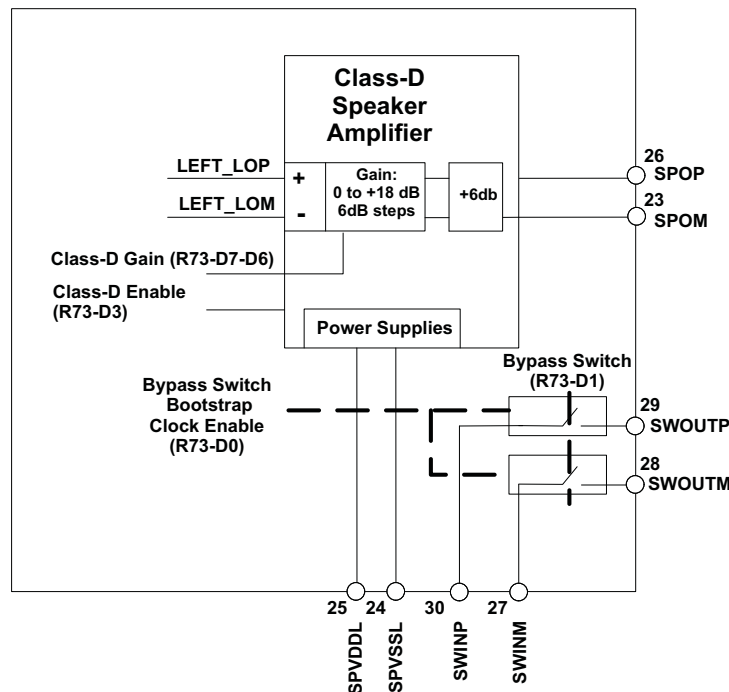
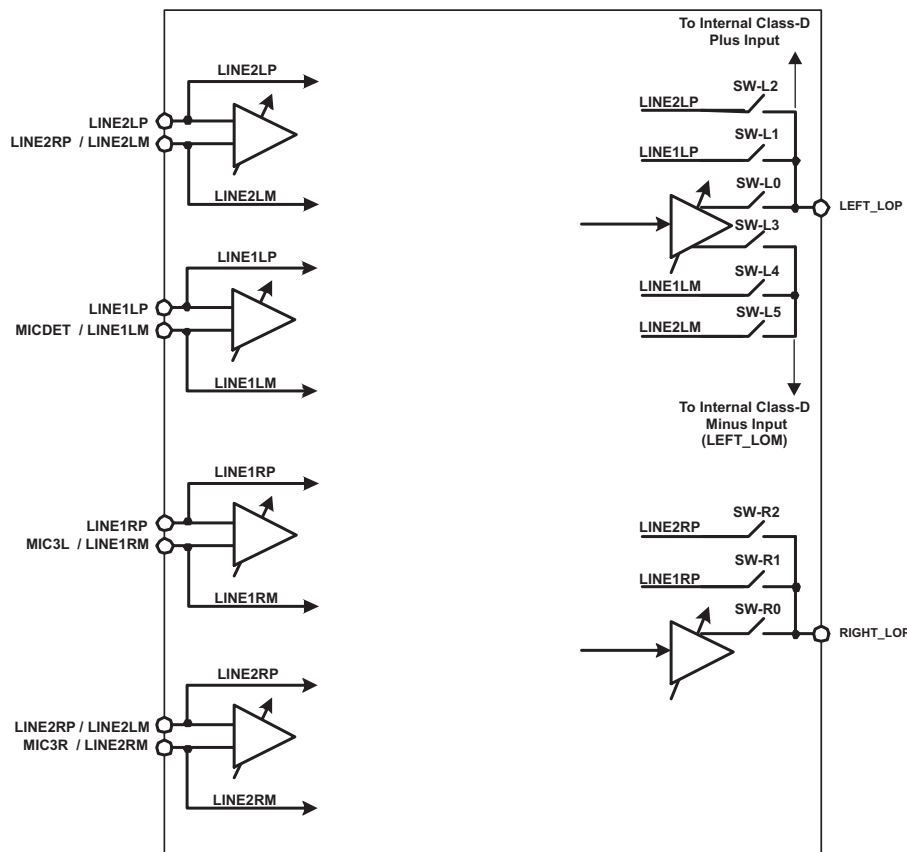

Figure 28. Differential Class-D Speaker Circuit
Figure 32. Passive Analog Bypass Mode Configuration
Differential Class-D speaker outputs are available on the SPOP and SPOM pins as shown in Figure 28. The integrated Class-D speaker amplifier can drive a one Watt audio signal into a differential 8- Ω load. The plus input to the Class-D amplifier is the same signal available at the left lineout LEFT_LOP pin. The minus input to the Class-D amplifier is an internal signal that is sourced as shown in Figure 32. A register (73) is used to enable the Class-D amp and set its gain control (0 dB to +18 dB). Following the gain control and before the outputs is a fixed +6 dB gain. Note that there are many other gains available in the signal path leading up to the Class-D amp so for best results the user must map the gains correctly.
Programming the TLV320AIC3107 to Passive Analog bypass occurs by configuring the output stage switches for pass through. This is done by opening switches SW-L0, SW-L3, SW-R0, and closing either SW-L1 or SW-L2 and SW-R1 or SW-R2. See Figure 32 Passive Analog Bypass Mode Configuration. Programming this mode is done by writing to Page 0, Register 108.
Connecting MIC1RP/LINE1RP input signal to the RIGHT_LOP pin is done by closing SW-R1 and opening SW-R0, this action is done by writing a “1” to Page 0, Register 108, Bit D4. Connecting LINE2RP/LINE2LM input signal to the RIGHT_LOP pin is done by closing SW-R2 and opening SW-R0, this action is done by writing a “1” to Page 0, Register 108, Bit D6. A diagram of the passive analog bypass mode configuration can be seen in Figure 32.